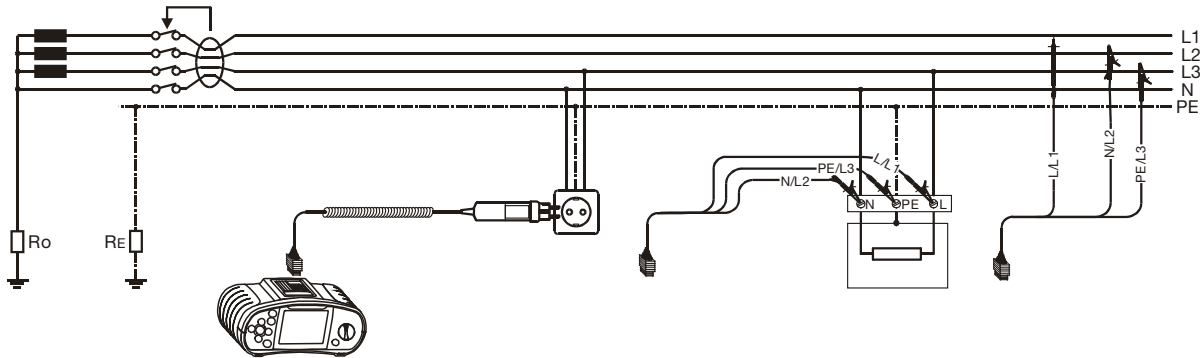

Fig. 5.40: Connection diagram
Step 2 Follow the connection diagram shown in figure 5.40 to perform voltage and frequency measurement.